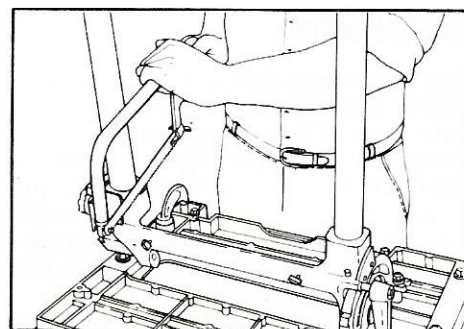

Figure 7. Cutting the tube boss.
e. Use a hacksaw with a sharp blade to cut vertically through the tube boss but not into the horizontal part of the tie bar. (See Figure 7.)